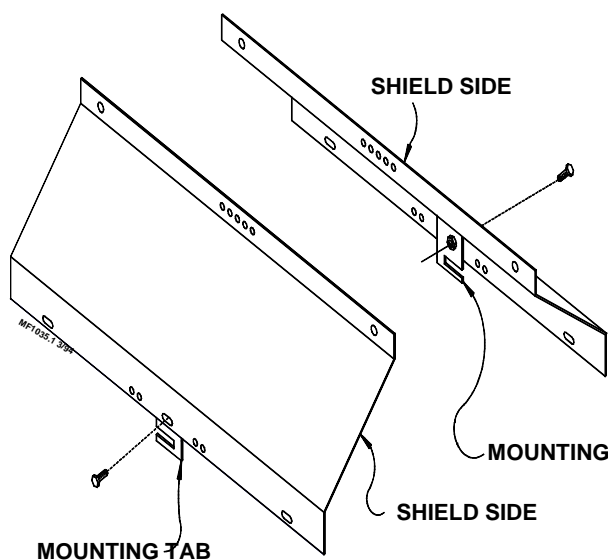

Figure 4.
4. Secure the Litter Shield to the Driver Assembly using the screws removed in Step 1. See Figure 4.
6. Install the power unit suspension components as shown in Figure 4.